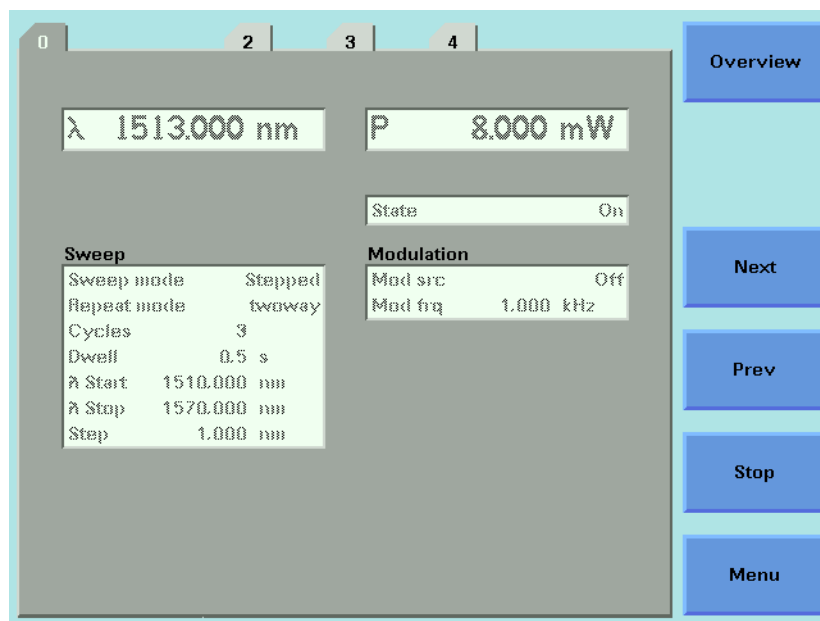

Figure 74 Performing a Manual Sweep
- 6** Press [Run Swp] to start the sweep. The screen in Figure 74 then appears.